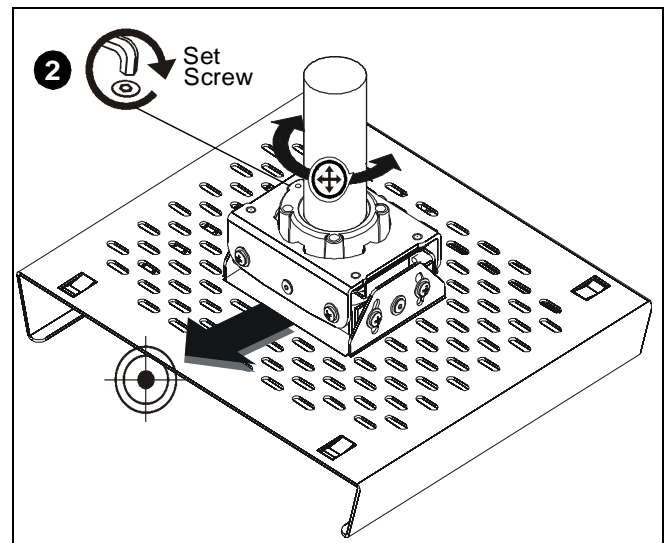

Figure 3
1. Turn MSP-RPAA2W sleeve clockwise or counterclockwise until the front of the MSP-RPAA2W is facing target. (See Figure 3)